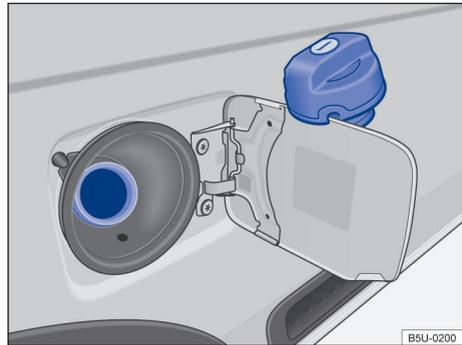

Fig. 125 Open tank flap with tank cap attached to the holder.
- Screw the cap anticlockwise and hang it over the tank flap → Fig. 125.